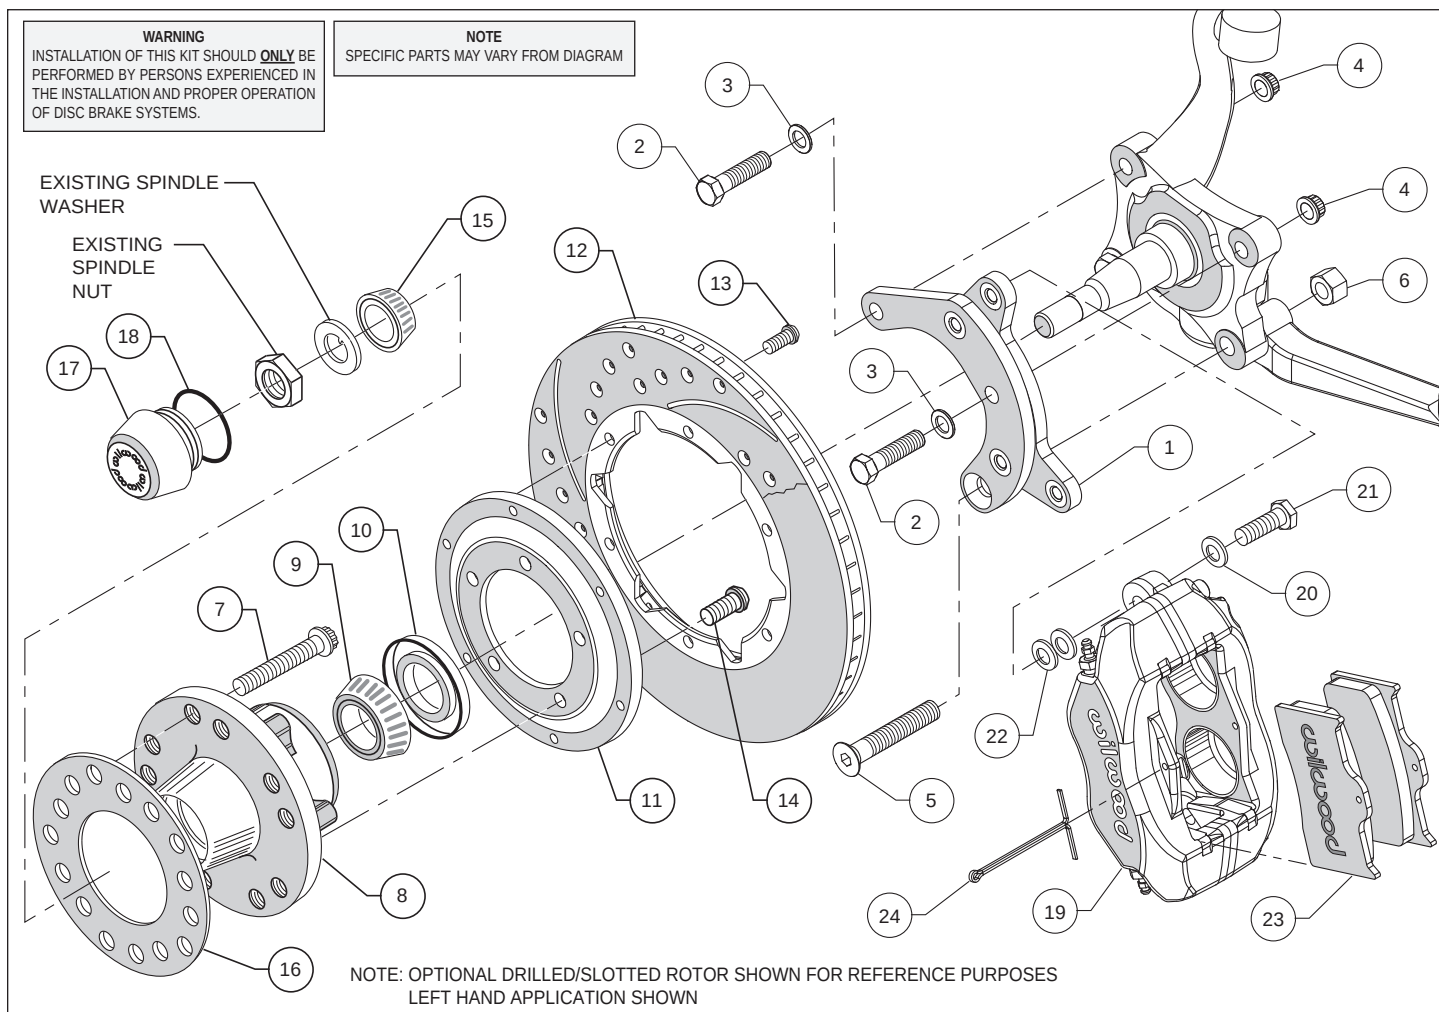
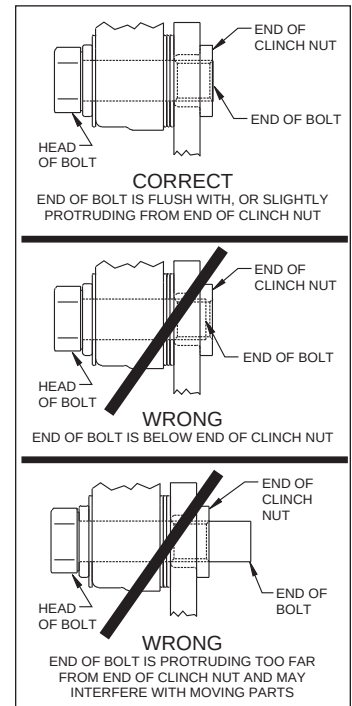

Figure 1. Typical Installation Configuration
Figure 4. Clinch Nut Engagement Diagram
Assembly Instructions (numbers in parenthesis refer to the parts list, on the preceding page and Figure 1): **CAUTION:** All mounting bolts must fully engage clinch nuts. Be sure to check that all bolts are either flush or protruding through flanged side of clinch nut after shimming, Figure 4.
- Align bracket with the corresponding holes on the face of the spindle, attach using bolts (2/5), washer (3), and secure using nuts (4/6) as shown in Figure 1 and Photo 1. Temporarily tighten the mounting bolts. Ensure that the flanged heads of the clinch nuts in the bracket are facing outboard, Photo 1. **NOTE:** The bracket must fit squarely against the mounting points on the spindle. Inspect for interference from casting irregularities, machining ridges, burrs, etc. Torque lock nuts (4) to 47 ft-lbs. Remove bolt (5), apply red *Loctite*® 271 to threads and torque nut (6) to 77 ft-lbs.
- Pack the large inner bearing cone (9) with high temperature disc brake bearing grease (available from your local auto parts store) and install into the backside of the hub (8), Photo 3.
- Install the grease seal (10) by pressing into the backside of the hub (8), flush with the end of the hub, Photo 3.
- Orient the rotor (12) and the rotor adapter (11) as shown in Figure 1 and Photo 4. Attach the rotor to the adapter using bolts (13). Using an alternating sequence, apply red *Loctite*® 271 to the threads, and torque to 25 ft-lb.
- Mount the adapter/rotor assembly (11/12) to the hub (8) using bolts (14), as shown in Figure 1 and Photo 5. Using an alternating sequence, apply red *Loctite*® 271 to the threads, and torque to 55 ft-lb.
- Pack the small outer bearing cone (15) with high temperature disc brake bearing grease and install into hub (8). Slide the hub/rotor assembly onto the spindle. Secure using OEM spindle washer and OEM spindle nut, Photo 6. Adjust bearings per OEM specifications. Install saved OEM nut lock (if any) and a new cotter pin (not supplied).
- Screw dust cap (17) into hub (8), Photo 7. Friction created by the o-ring (18) on the dust cap keeps it from unscrewing. **NOTE:** The O.D. of the existing OEM spindle washer may be larger than the I.D. of the dust cap not allowing it to seat against the hub face. Therefore, use the spindle washer (16) supplied with the kit instead of the OEM washer.
- NOTE:** Please reference the caution statement at the beginning of the assembly instructions. Mount the caliper (19) onto the caliper mounting bracket (1) using bolts (21) and washers (20), as shown in Figure 1. Initially place two .035" thick shims (22) on each bolt between the caliper and the bracket, Photo 8. Temporarily tighten the mounting bolts and view the rotor (12) through the top opening of the caliper. The rotor should be centered in the caliper, Photo 9. If not, adjust by adding or subtracting shims between the bracket and the caliper. Always use the same amount of shims on each of the two mounting bolts. **NOTE:** The end of each bolt must be flush with or slightly protruding from the head of the clinch nut, as shown in Figure 4. If necessary place spare shims between washer (20) and caliper mounting ear to achieve the proper clinch nut engagement. Once the caliper alignment and clinch nut engagement are correct, remove the bolts one at a time, apply red *Loctite*® 271 to bolt threads, and torque to 40 ft-lb.
- Install the disc brake pads (23) into the caliper, with the friction material facing the rotor (12), and secure in place using cotter pin (24), Photo 10.